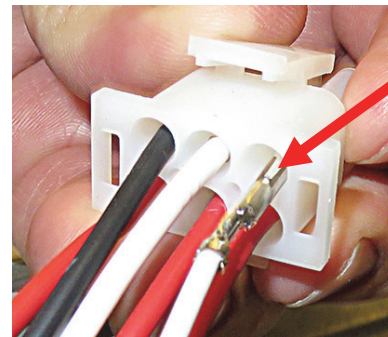

Figure 20
24. Insert the pin of the white wire, removed in step 7 into the number 6 pin position, of the 12-pin Molex male connector, in the new supplied harness (see Figure 20). Give a gentle tug on the wire to ensure the pin is fully seated into the connector.